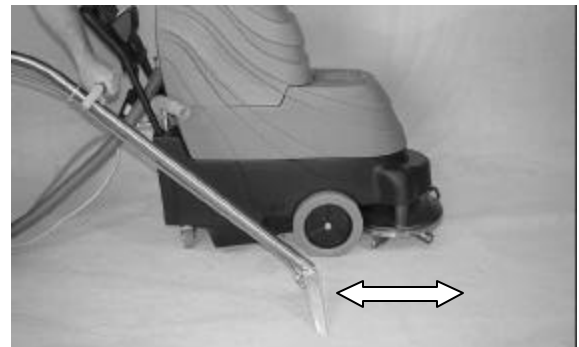

Fig. 6
2. Take carpet cleaning wand in hand and squeeze valve trigger while moving the tool in short forward and backward strokes (Figure 6).